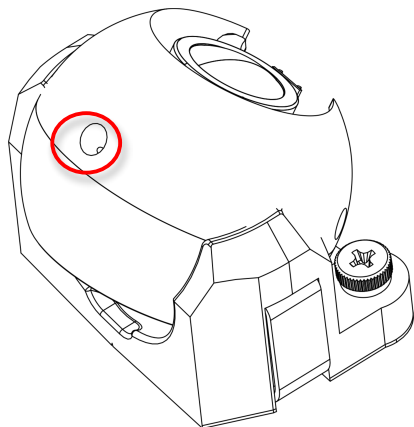

Figure 1: Lock camera head after adjusting the field of view
3. Adjust the pan and tilt to obtain the desired field of view. Then, lock the camera head in place by tightening at least two of the three set-screws with the supplied flat-head screwdriver (Figure 1). Do not over torque the screws.